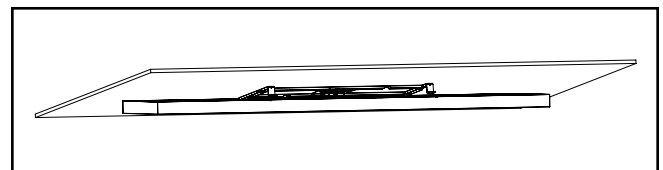

Figure 5.
- Swing the fixture up so it is almost parallel with the ceiling. Lift and pull the fixture up onto the back hinge, then lift the front of the fixture until both snaps are engaged. Give the fixture a slight pull to make sure the snaps are fully engaged, see Fig.5